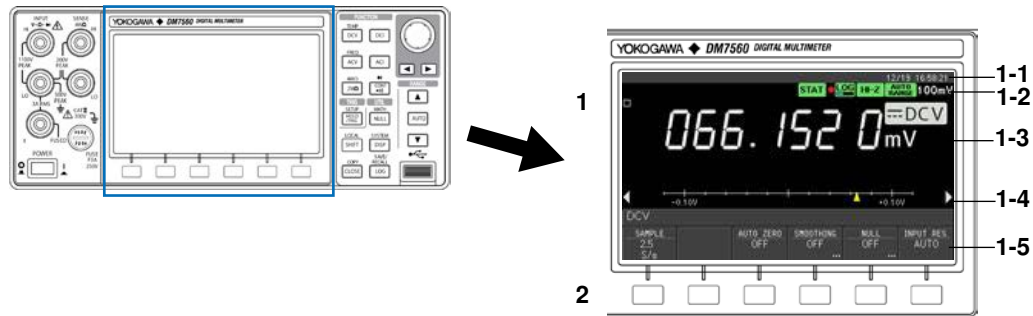

Figure 1.2 Display part
Figure 1.2 shows the display part on the front panel and Table 1.2 describes the name and function of each parts.
*Figure 1.2 also shows the location of the display part in the instrument of front panel by enlarging them.